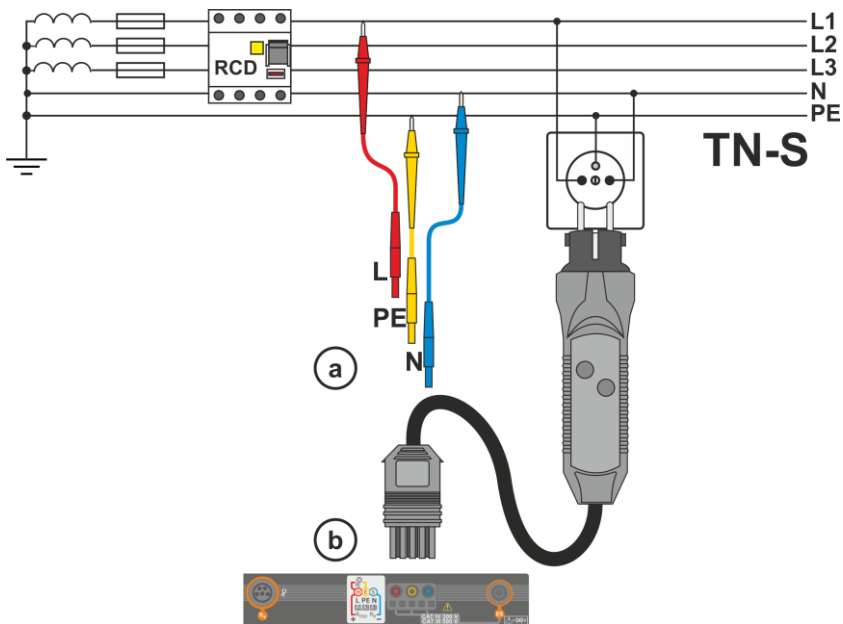
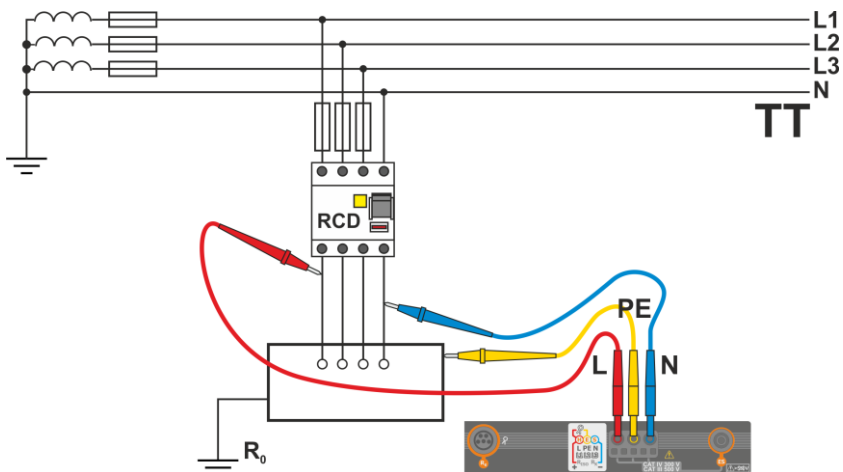

Fig. 3.3 Measurement in the TN-S system
Fig. 3.4 Measurement in the TT system
- 1 Connect test leads according to Fig. 3.3 , Fig. 3.4 lub Fig. 3.5.